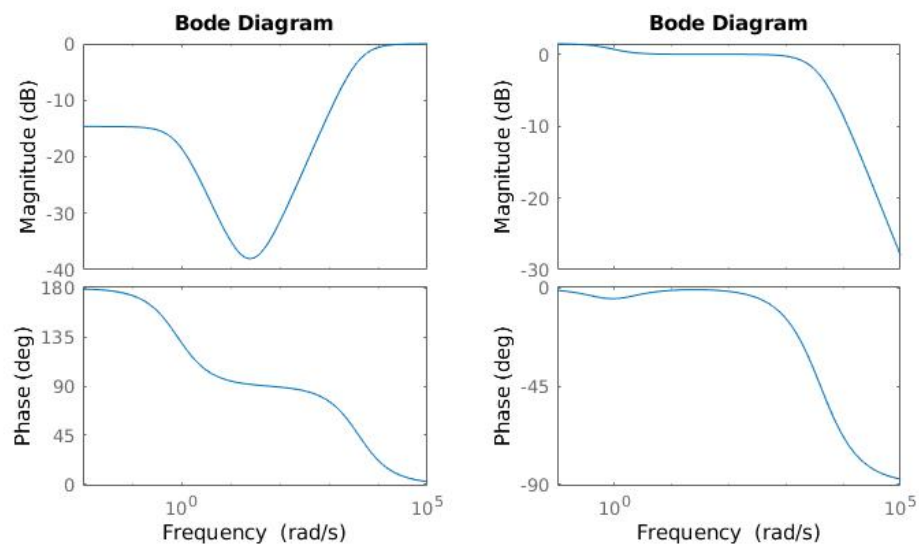

Figure 5: Bode plot for $S = \frac{1}{1+L}$ on the left and $T = \frac{L}{1+L}$ on the right.
- (c) Figure 5 shows the Bode plots for S and T .